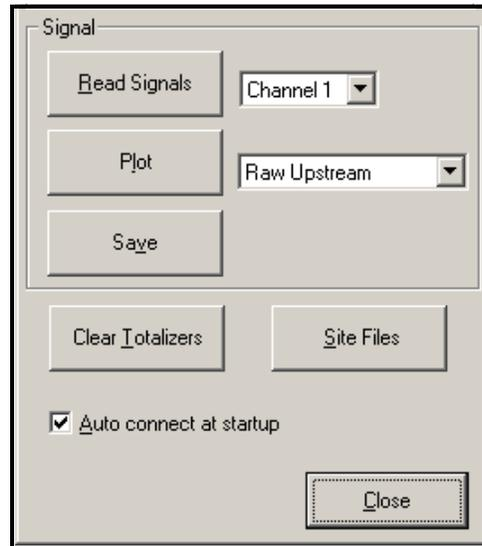

Figure 2-6: Active Signal Options in Properties Window
- To read a signal from the meter, click on the [Read Signals] button. (If the meter is a multi-channel instrument, open the Channel drop-down menu and click on the desired channel.) After a moment, the *Properties* window appears similar to Figure 2-6 below.